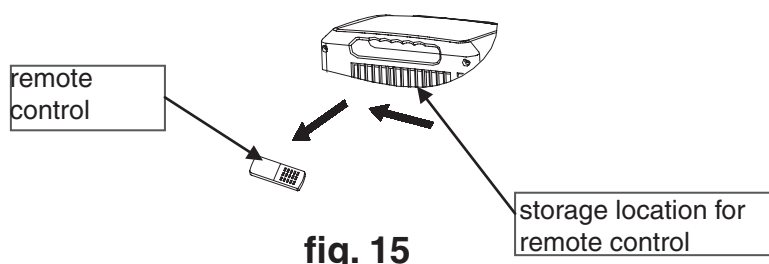

fig. 15
- 1 Select the remote control from the remote control storage in the direction of the arrow (see figure 15).